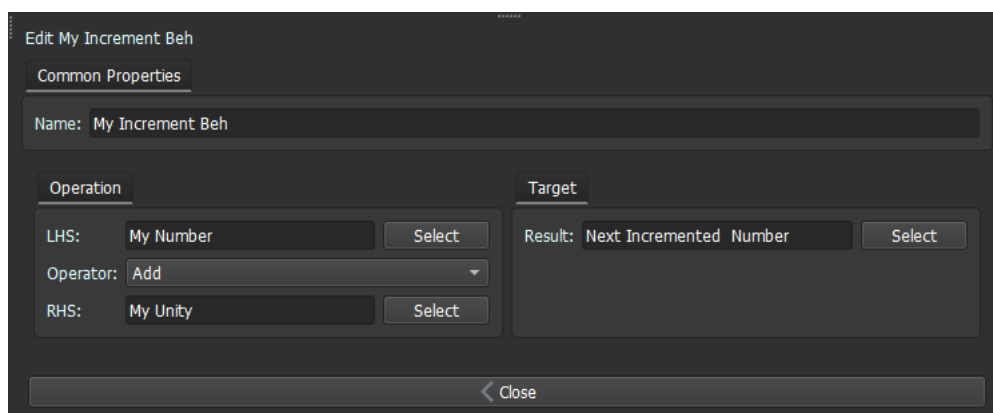

Fig. 7-32: Math Binding Properties
- 7 Configure the **Math** Binding to add one to 'My Number' and place the result in **Local Value** 'Next Incremented Number'. See Figure 7-32.